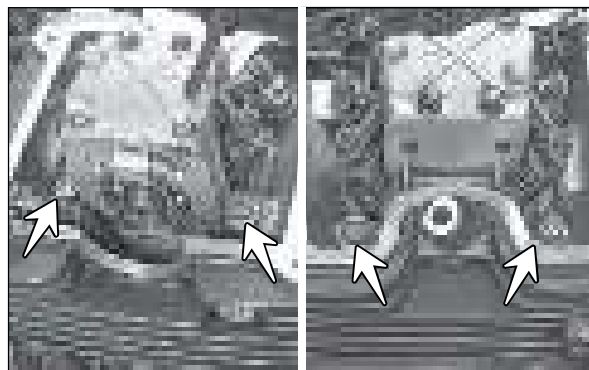

Fig. 3.45
- Remove the bolt cylinder head (4 Nos.) from the mounting of cylinder head complete. (Fig. 3.45)